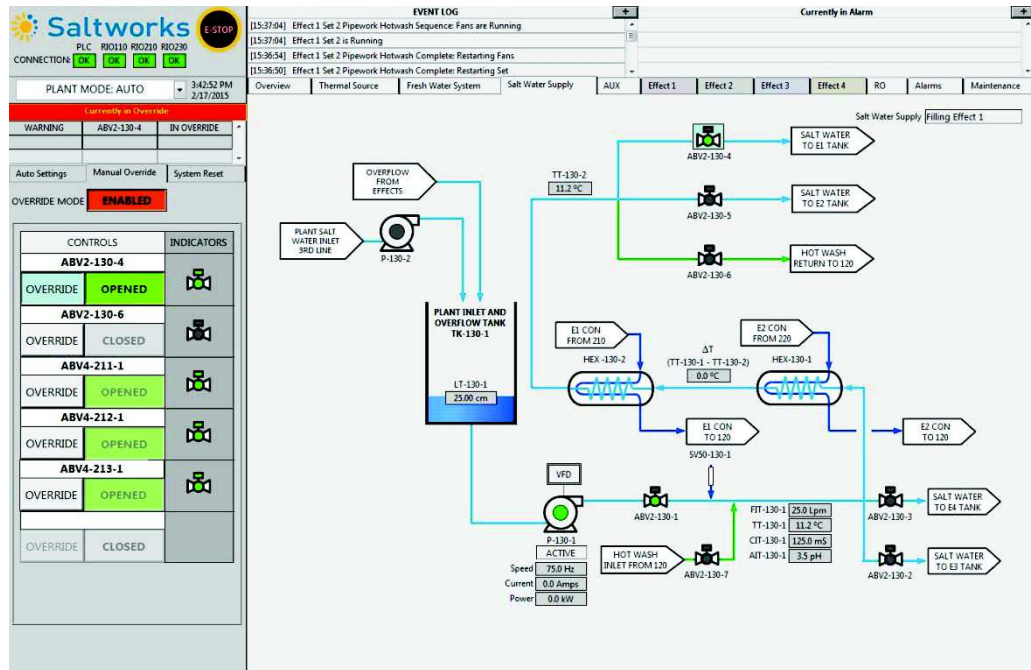

Figure 24: Overriding Selected Devices
- Clicking the OVERRIDE button to put the device into the override state and allow the operator to manually control the device, indicated by a blue box around the device. Above the Manual Override tab is the "Currently in Override" display that displays all devices currently in override. Figure 24 shows the "Currently in Override" display, as well as an instrument in override state.